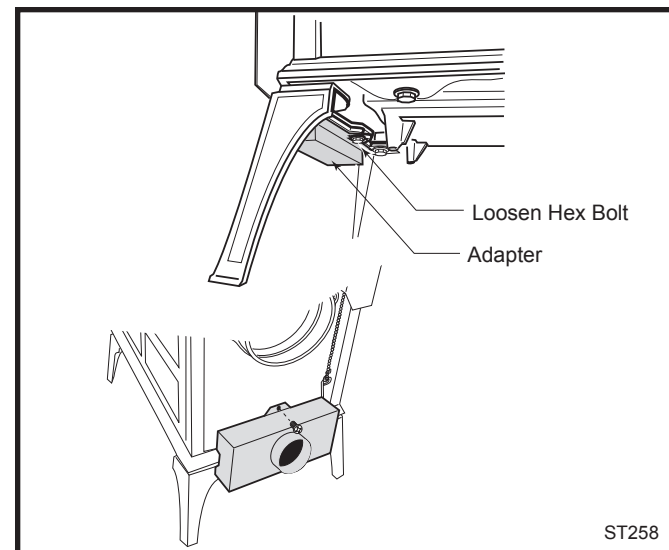

Fig. 24 Attach the adapter to the bottom plate.
3. If you are not installing a Rear Heat Shield, use the phillips head screw to secure the upper flange of the Adapter to the stove at the hole from which the screw was removed in Step 1. (Fig. 24) Otherwise, a heat shield spacer will be used here. (See "Install the Rear Heat Shield", below.)